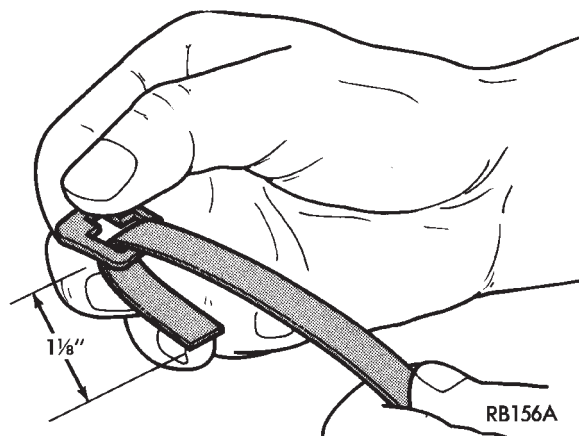

Fig. 3 Install Buckle on Strap
(5) Pass the strap through the buckle and fold it back about 29 mm (1-1/8 inches) on the inside of the buckle (Fig. 3).